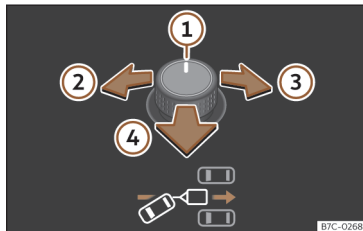
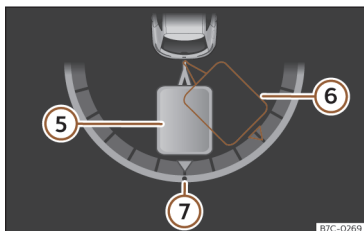

Fig. 167 Outside rearview mirror rotary control: adjust the trailer angle.
Fig. 168 Instrument cluster display: engage reverse.
Key to the >>> **Fig. 167** , >>> **Fig. 168**:
- Tilt the rotary control until the desired direction is reached >>> **Fig. 167**. A representation of the tow vehicle and trailer set is shown on the instrument cluster screen for guidance purposes >>> **Fig. 168**.